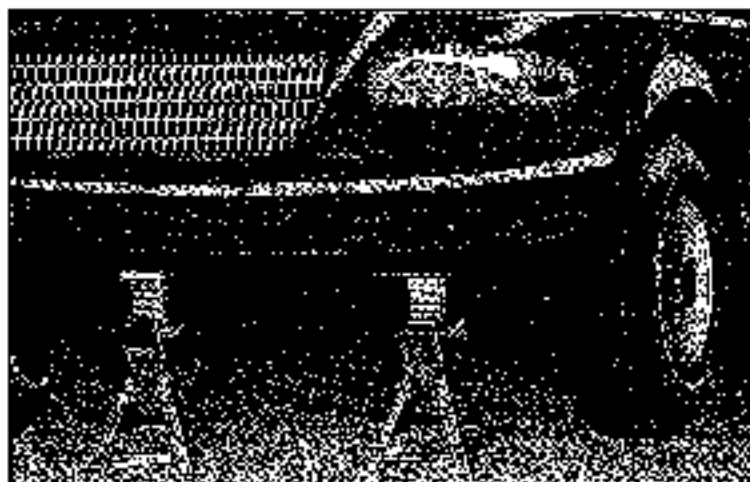

Figure 1-2
4. If you have jack stands, place them under the car, near the place where the jack is touching the vehicle (see Figure 1-2). Raise the stands until they are high enough to just lift the car, and lock them in place. Lower the jack until the car is resting on the jack stands. Then remove the jack.